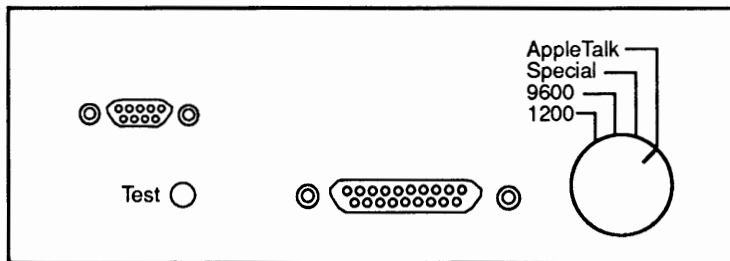

FIGURE 1-5: REAR (I/O) CONNECTOR PLATE
1. The TEST light on the rear (I/O) connector plate (Figure 1-5) comes on continuously (either steady or blinking) if the LaserWriter I/O board is malfunctioning. (If the board is functioning correctly, this light will blink once and then go out when the printer is turned on.)